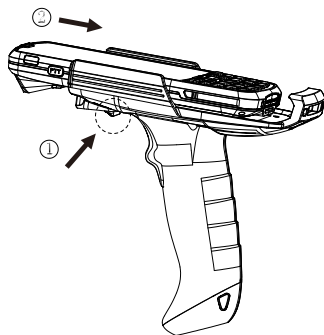

fig.1
Installation: install the PDA according to the steps ①② in Fig 1.